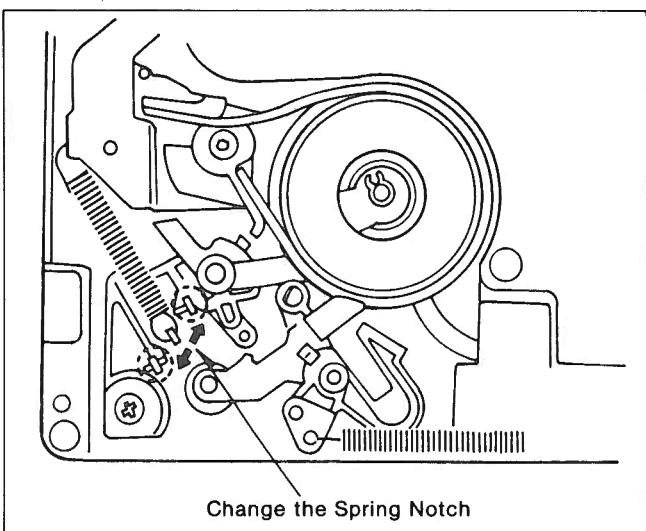

Figure M35
3. If it is out of specification, change the spring notch as shown in Figure M35.